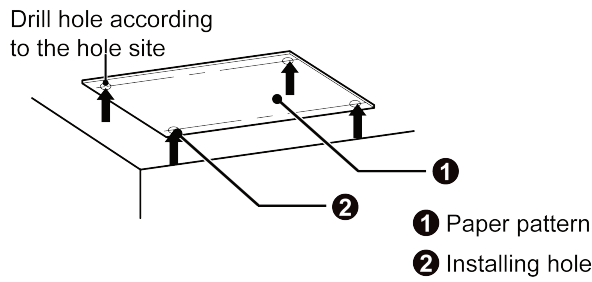
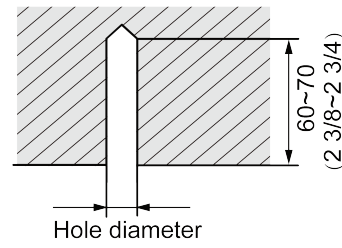

Fig.4.9
Fig.4.10
- 1) Stick the installation template at the installation position flatly, drill 4 holes at the installation position basing on the installation template. As shown in Fig.4.9. Please refer to the diameter of expansion bolt for the diameter of hole with depth of 60-70mm (2-3/8~2-3/4inch). As shown in Fig.4.10.